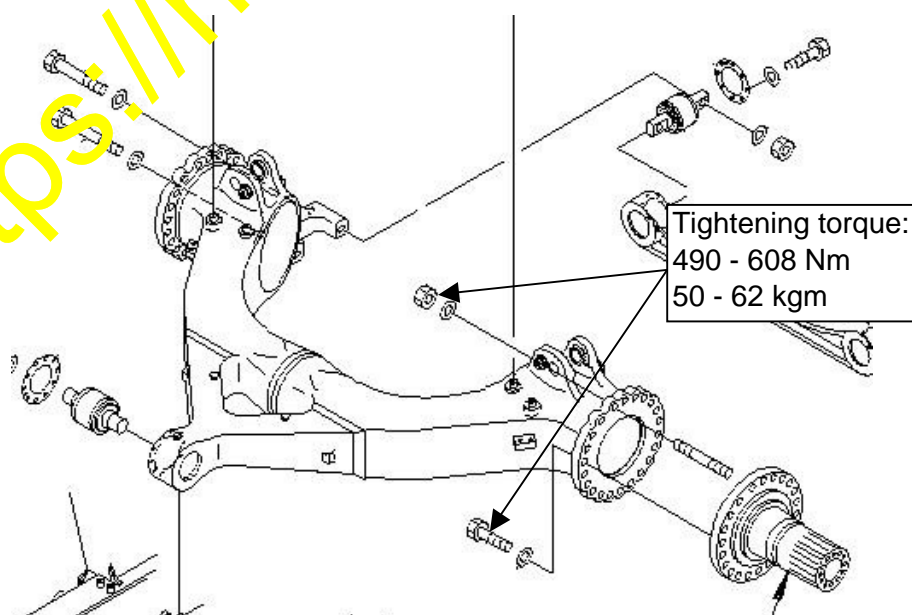

Fig. 10
- 5) Install the final drive & brake assemblies. (Refer to Fig. 10.)